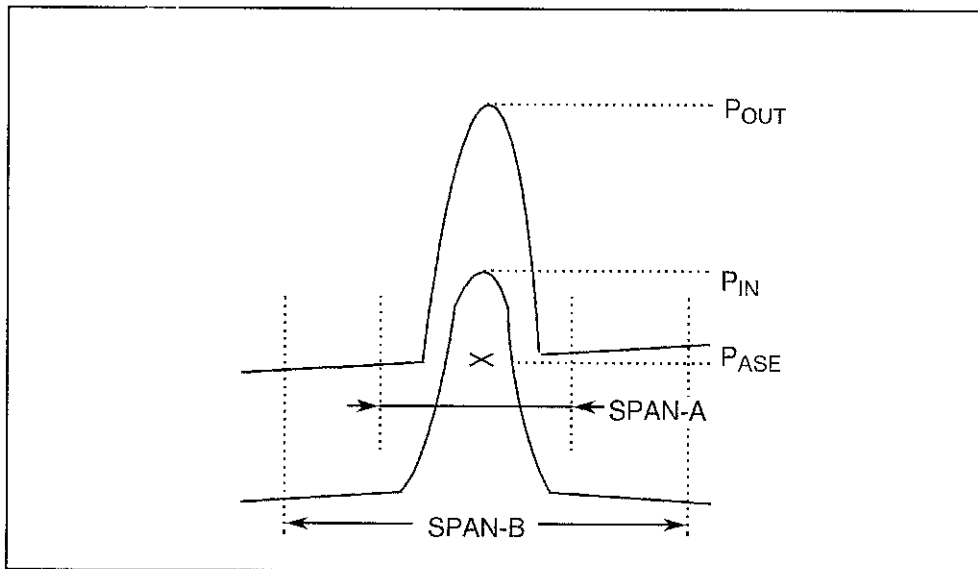

Fig. 4-15 Data Area in  $P_{ASE}$  calculation
The initial value is 2.0nm, and the setting range is 0.1nm to 100.0nm. (See Figure 4-15)
The initial value is 5.0nm, and the setting range is 0.1nm to 100.0nm. (See Figure 4-15)
- (\*2): Result obtained by subtracting the data in the SPAN-A area from the data in the SPAN-B area having the signal light wavelength as center (See Figure 4-15 )
Our R9833 plotter and "HP-GL" (HP-GL : Hewlett Packard's Graphic Language) specification plotter can be connected to this analyzer. The "PLOTTER" display is inverted by pressing this key, and the following soft key menu appears. The plotter type, output data type, output size, etc. can be set through the soft keys. Figure 4-15 is an example of plotter output.